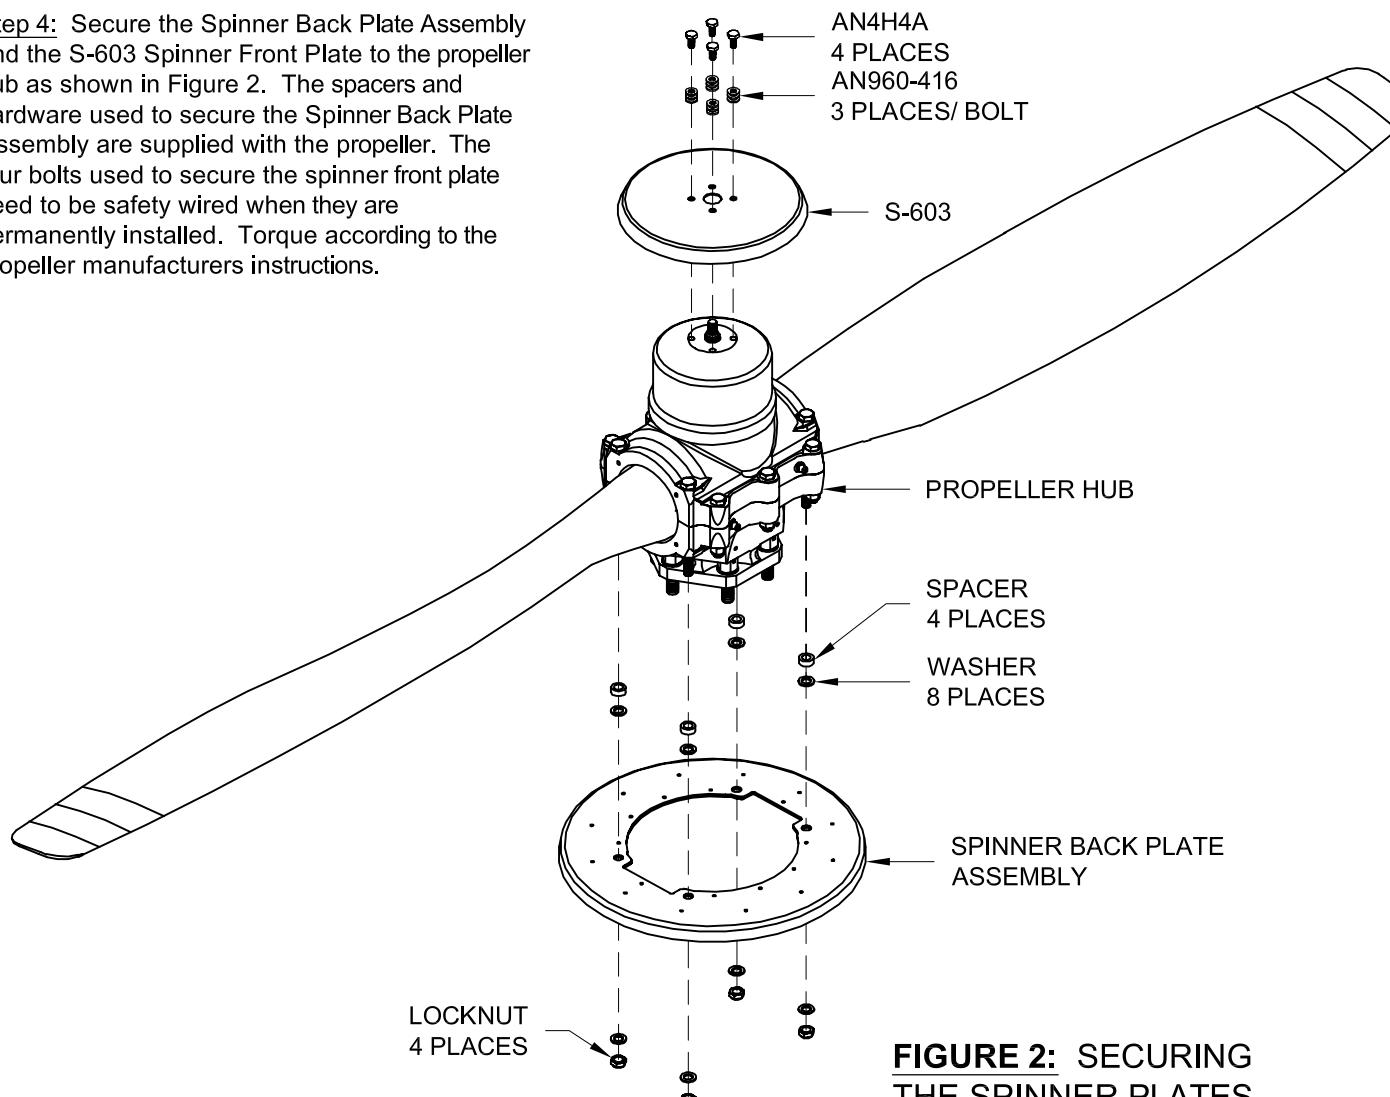

FIGURE 2: SECURING THE SPINNER PLATES
Step 4: Secure the Spinner Back Plate Assembly and the S-603 Spinner Front Plate to the propeller hub as shown in Figure 2. The spacers and hardware used to secure the Spinner Back Plate Assembly are supplied with the propeller. The four bolts used to secure the spinner front plate need to be safety wired when they are permanently installed. Torque according to the propeller manufacturers instructions.